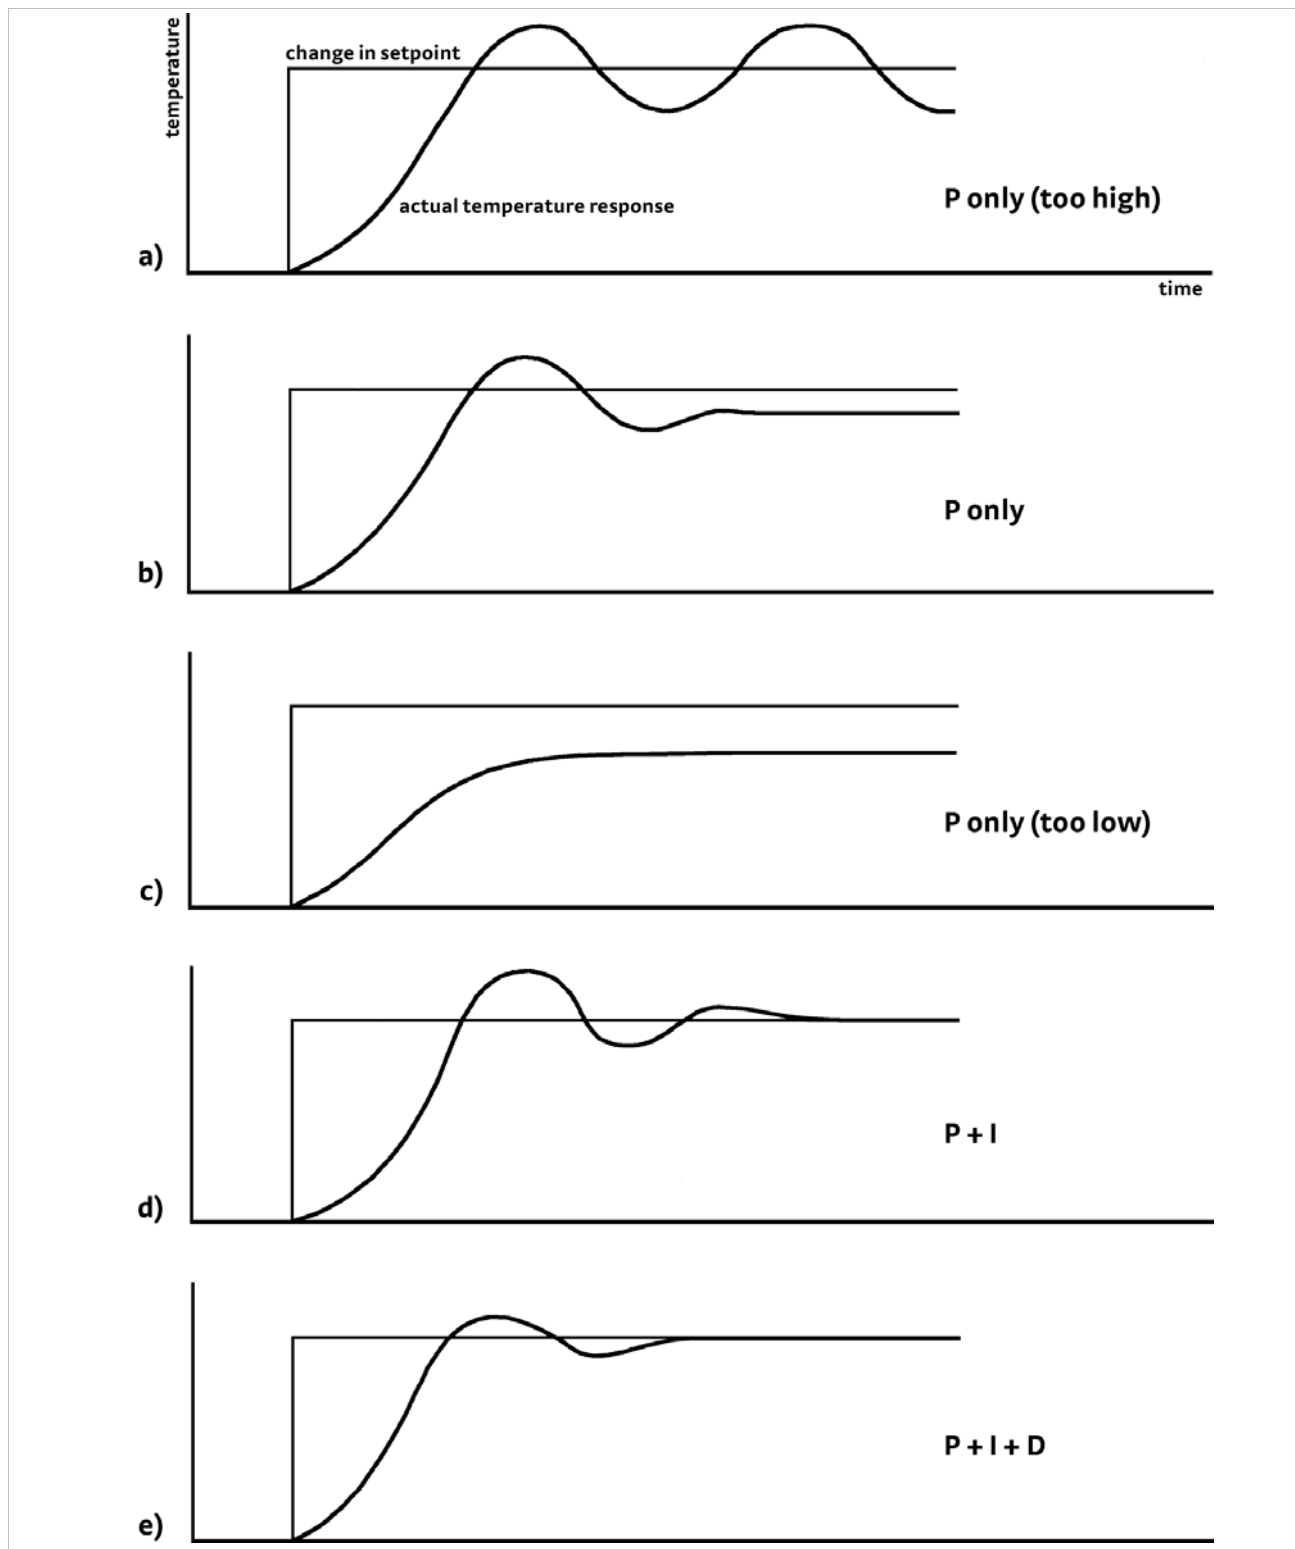

FIGURE 2-2 Examples of PID control
For closed-loop operation, the Model 336 temperature controller uses an algorithm called PID control. The control equation for the PID algorithm has three variable terms: proportional (P), integral (I), and derivative (D). See FIGURE 2-2. Changing these variables for best control of a system is called tuning. The PID equation in the Model 336 is:
8. Repeat step 7 until you reach a setting in which the load temperature begins a sustained and predictable oscillation, rising and falling in a consistent period of time. See FIGURE 2-2(a).
11. Reduce the proportional setting by half. The appropriate proportional setting is one half of the value required for sustained oscillation in step 8. See FIGURE 2-2(b). Continue to Tuning Integral section 2.8.3.
When the proportional setting is chosen and the integral is set to 0 (off), the Model 336 controls the load temperature below the setpoint. Setting the integral allows the Model 336 control algorithm to gradually eliminate the difference in temperature by integrating the error over time. See FIGURE 2-2(d). An integral setting that is too low causes the load to take too long to reach the setpoint. An integral setting that is too high creates instability and can cause the load temperature to oscillate.
If an experiment requires frequent changes in setpoint, derivative should be considered. See FIGURE 2-2(e). A derivative setting of 0, off, is recommended when the control system is seldom changed and data is taken when the load is at steady state.